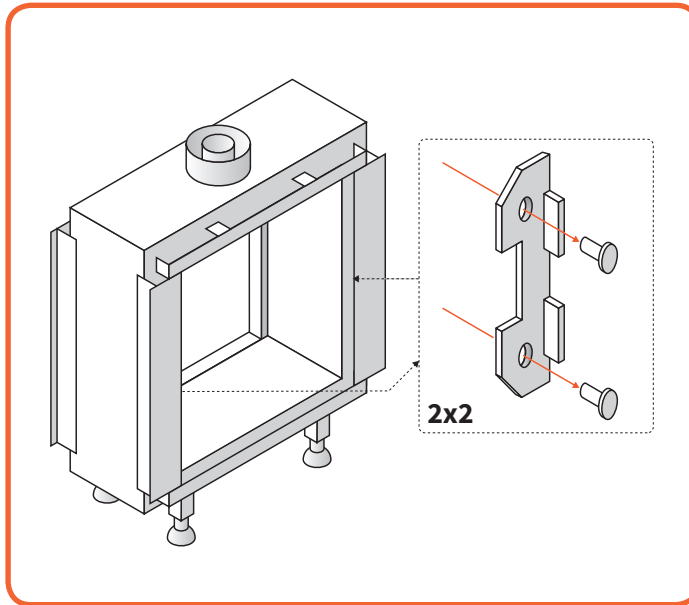

Figure 10.6 - Remove clamps
- Secondly remove the 6 glass clamps by unscrewing the two screws that hold each clamp. (See *Figure 10.6*)